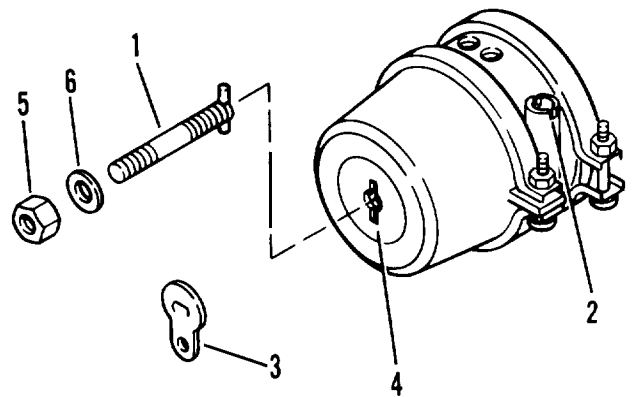

Figure 3-7. Caging failsafe
- b. Remove plug (3, figure 3-7) from air brake chamber.
- c. Remove nut (5) and washer (6). Remove release tool (1) from mounting hole (2) in spring brake.
- d. Insert release tool (1) through opening (4) in brake chamber. Turn release tool (1) 1/4 turn clockwise to lock in manual release position.
- e. Install washer (6) and nut (5) on release tool (1). Tighten until 2 1/2 to 2 3/4 inches of release tool (1) is exposed.